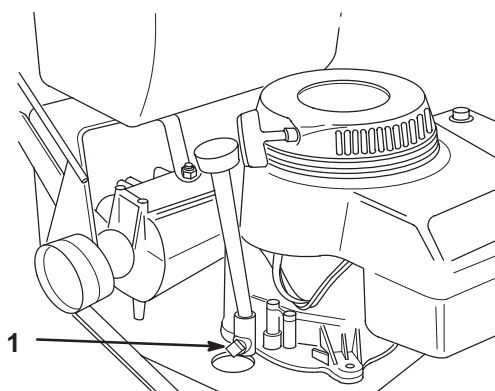

Figure 25
3. Place a pan below the oil drain. Remove the oil drain plug (Fig. 25).